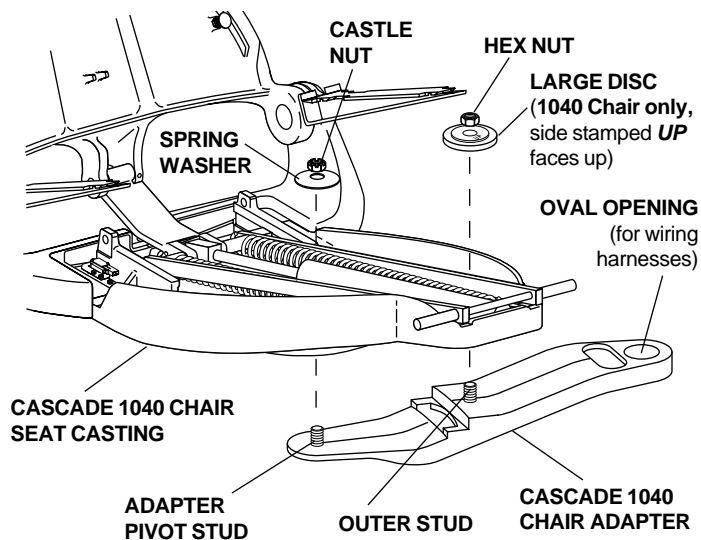
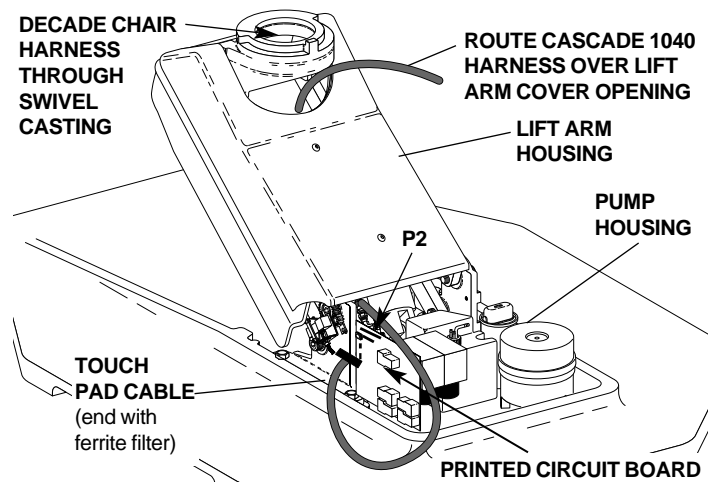

FIGURE 3
FIGURE 6
2. **Cascade chair:** Locate the adapter mounting hole near the center of the chair seat, under the tilt cylinder and springs. Position the adapter pivot stud (see Figure 3) in the mounting hole and install the spring washer (concave [hollowed] side down) onto the mounting stud. Tighten the castle nut. Back the castle nut off one-half turn and install the cotter pin.
3. Position the adapter for either right or left hand delivery system mounting. Place the large disc (with the side stamped UP facing up, see Figure 3) on the outer stud. Finger tighten the hex nut. Make sure the adapter is positioned fully to the side. Using a torque wrench, firmly tighten the hex nut to 55 foot pounds. **Go to *INSTALL THE TOUCH PAD AND CUSPIDOR SAFETY SWITCH WIRING HARNESS* on page 3.**
4. **Cascade chair:** Route the end of the harness with the ferrite filter (see Figure 5) into the oval opening on the top of the chair mount adapter (see Figure 3 on page 2), route the harness through the adapter, over the chair lift arm cover (see Figure 6), along the left-hand side of the lift cylinder, and into the pump housing.
5. **Decade chair:** Route the end of the harness with the ferrite filter (see Figure 5) towards the chair swivel casting (along the top of the chair mount adapter [secure with cable ties]), through the swivel casting into the lift arm housing (see Figure 6), along the left side of the lift cylinder, and into the motor/pump housing.
1. Route the duplex outlet power wiring harness over the top to the lift arm cover and down the right side of the lift cylinder into the area of the chair printed circuit board (similar to the routing of the touch pad wiring harness, see Figure 6 on page 3).